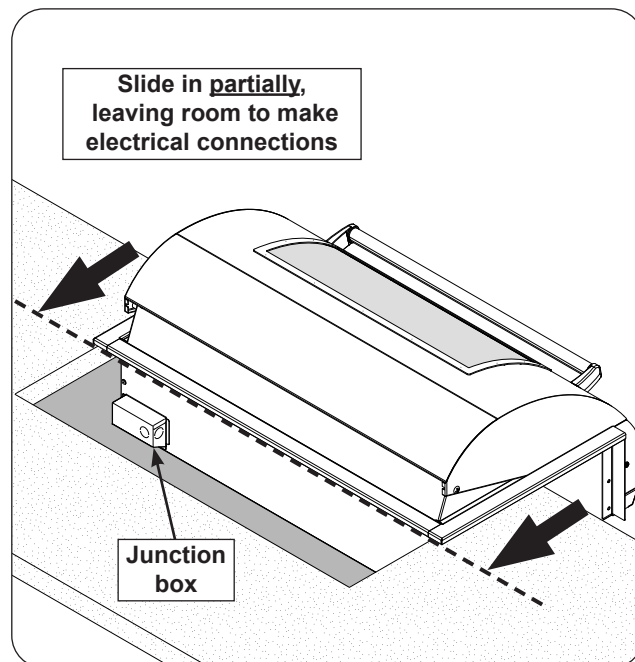

Fig. 23-2 Position unit for wiring
1. Slide the unit approximately halfway (or more) into the enclosure cutout so that the unit is resting safely while providing space to access the unit's rear junction box. See Fig. 23-2. (If the enclosure has a solid area behind the unit, an opening for the electrical is required. Reference the Electrical System Clearances section under the GRILL ENCLOSURE section.)